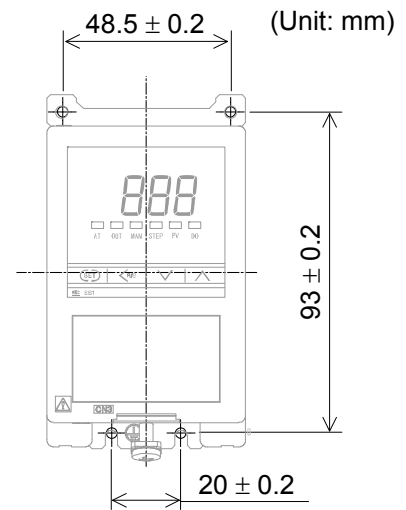

Fig. 2-3-1
1. Refer to **2.2 Dimensions (P. 2-4)** and the diagram (Fig. 2-3-1) at right to confirm the installation position.